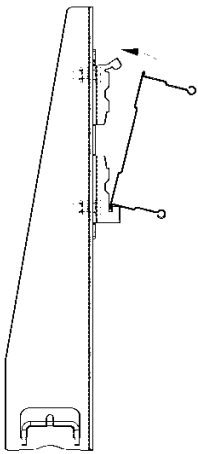

Fig. 23: Hook the support profile rail onto system holder from below
2. Hook the fastening frame incl. ProShell support profile rail onto the system holder from below (see Fig. 23). For the installation of the line feeds, see MV0800-0031.